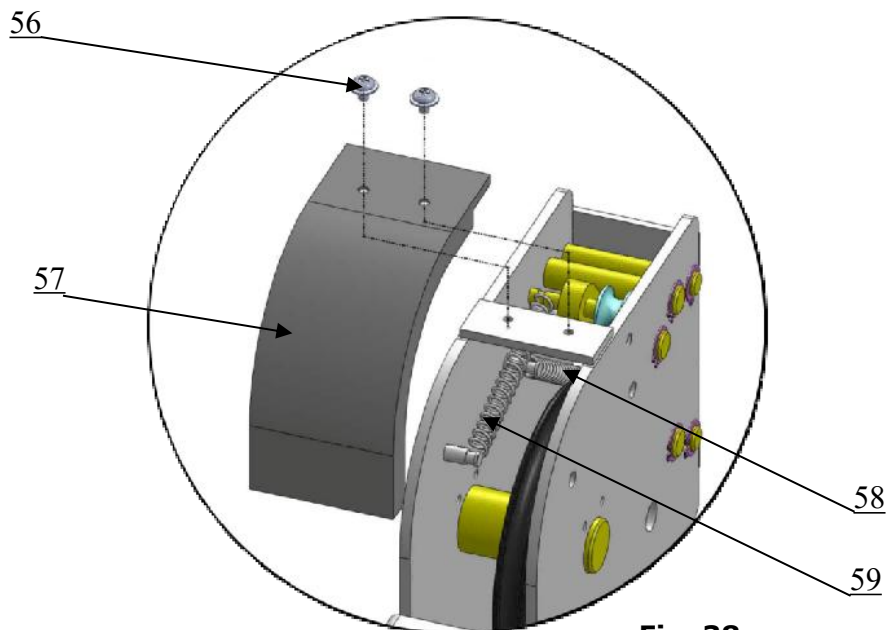

Fig. 38
4. Install tension spring and cross beam safety cover. **(See Fig. 38).**